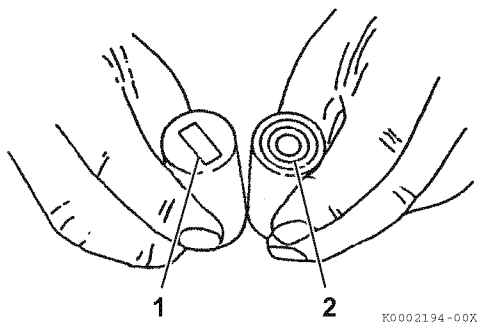

Figure 6-69
1. Inspect the tappet contact surfaces for abnormal wear (**Figure 6-69, (1)**). Normal wear will be even as shown in **Figure 6-69, (2)**. Slight surface defects can be corrected using an oilstone.